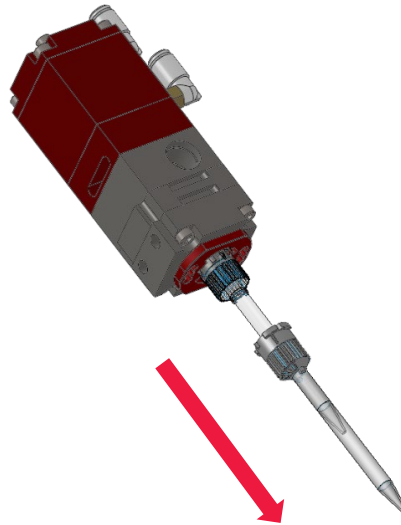

Figure 5: Remove the Static Mixer
5. Remove the static mixer (refer to Figure 5).